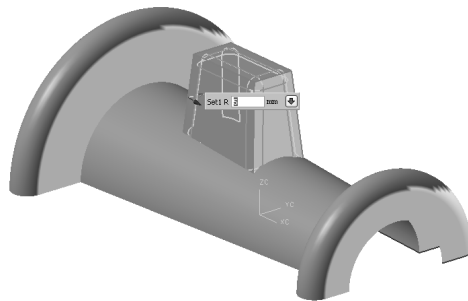

Figure 11-82 The preview of the fillets displayed after selecting the edges
2. Select the edges of the surface, as shown in Figure 11-82. Enter the fillet radius value as **5** in the **Radius 1** edit box.